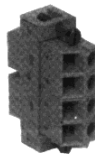

Figure 8: 4-position removable terminal block (CCA 604)
- 4-position removable terminal block CCA 604 (figure 8)